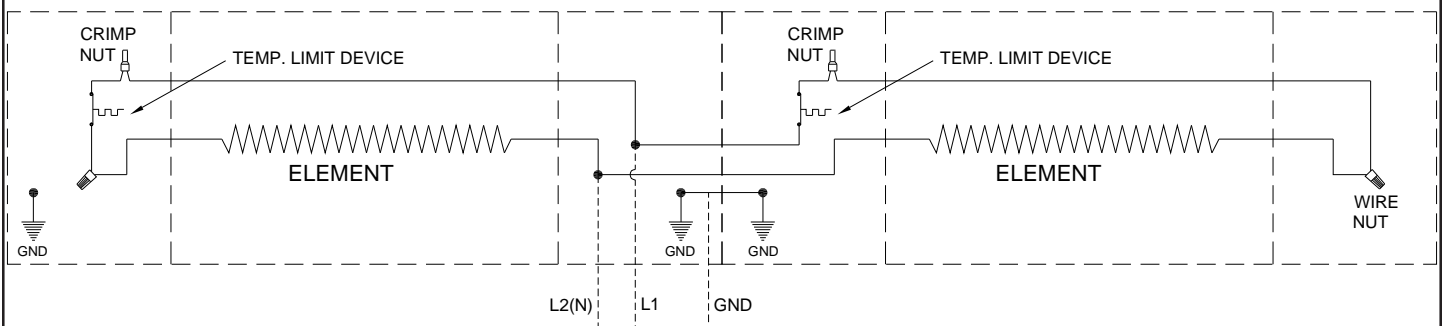

FIGURE 3
6. Remove the wire nut in the wiring compartment and connect the power supply as shown in the wiring diagrams, Figure 3. If you are using one of the field installed accessories, refer to the wiring diagram provided with the accessory.